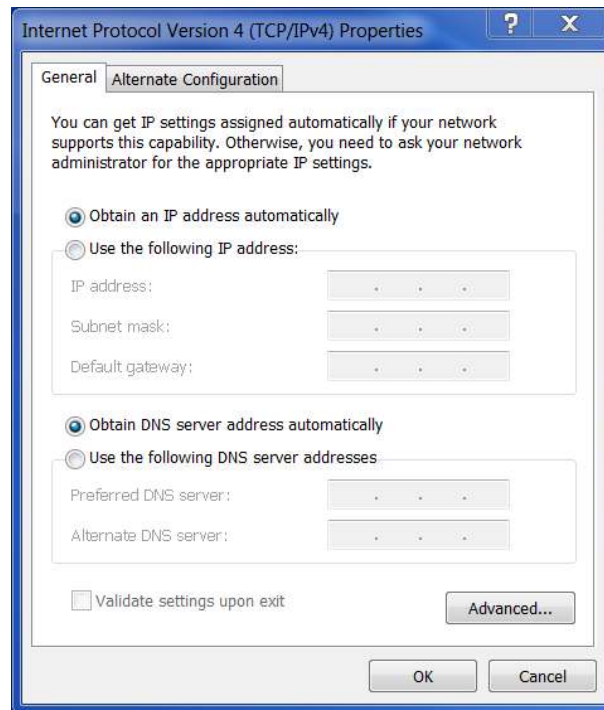

Figure 14: Internet Protocol Version 4 (TCP/IPv4) Properties
5. The “Internet Protocol Version 4 (TCP/IPv4) Properties” window displays the current configuration. Please take a screenshot or note the information contained in this window. You will need this information to re-establish the Internet connection at the end of the connection with the *A10-RTK* sensor (see Fig. 14).
7. To restore your computer’s Internet connection, repeat steps 1 to 4 and change the information in the “Internet Protocol Version 4 (TCP/IPv4) Properties” window back to how it was in step 5 (see Figure 14).